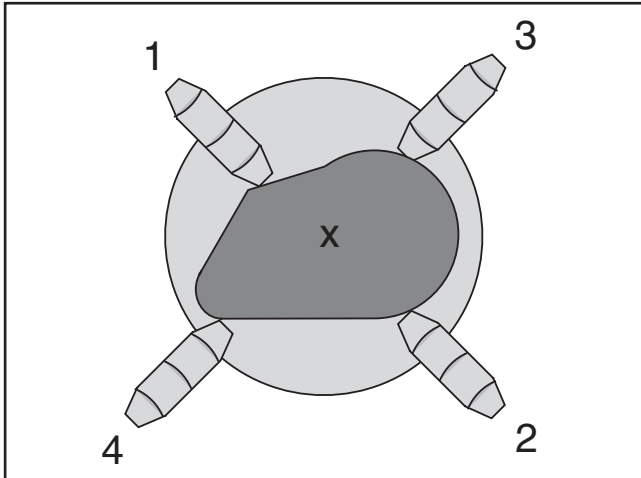

Figure 19. Tightening sequence for the 4-jaw chuck.
4. With assistance to hold the workpiece in place, tighten each jaw in small increments. After adjusting the first jaw, continue tightening in opposing sequence, as shown in **Figure 19**, until the workpiece is firmly secure in the desired position.